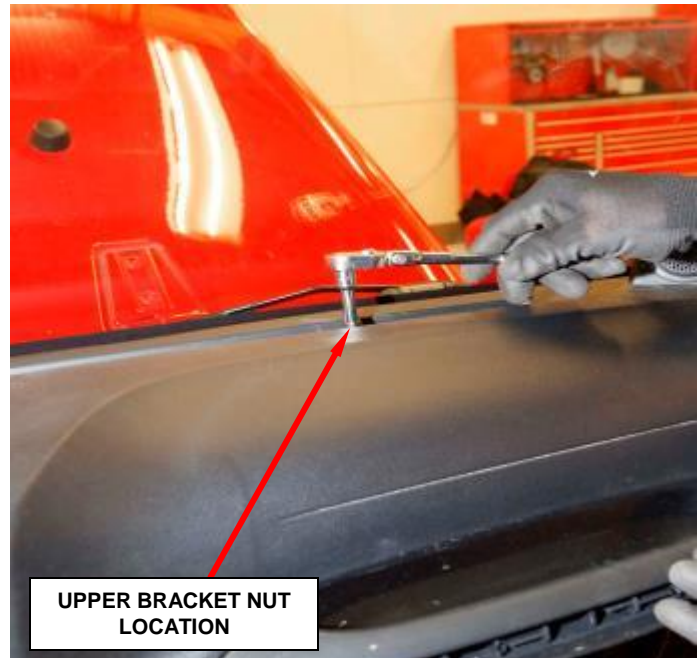

Figure 110 – PAB Upper Bracket Nut
26. Working through the access hole, **loosen** the nut that secures the PAB upper bracket and the instrument panel armature to the stud near the windshield fence line (Figure 110).